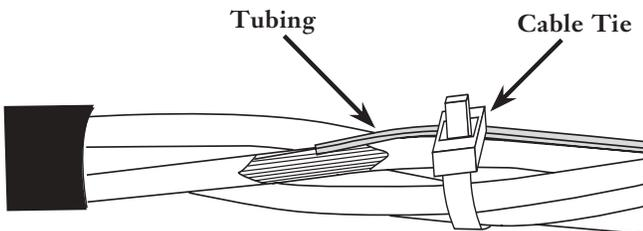

Figure 12
- Step 3** Secure the fan-out tubing to the cable core and the stranded buffer tubes using a cable tie (Figure 12).